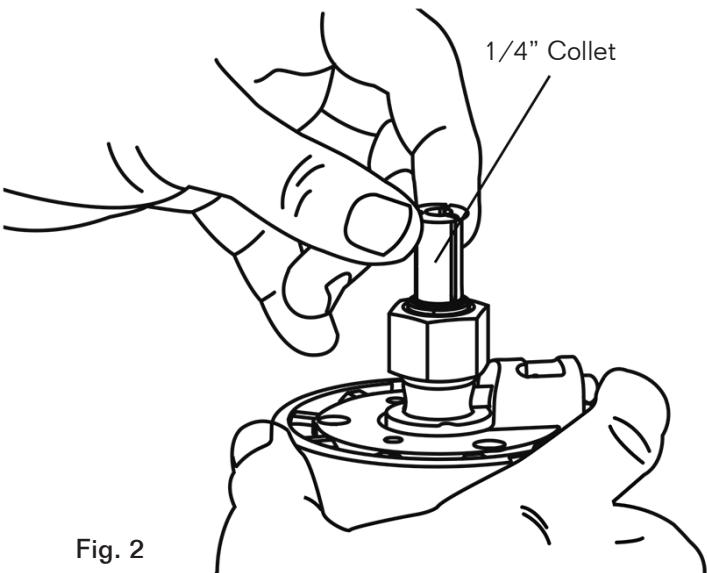

Fig. 2
6. Insert the 1/4" collet sleeve into the 1/2" collet assembly as far as it will go (FIG. 2).